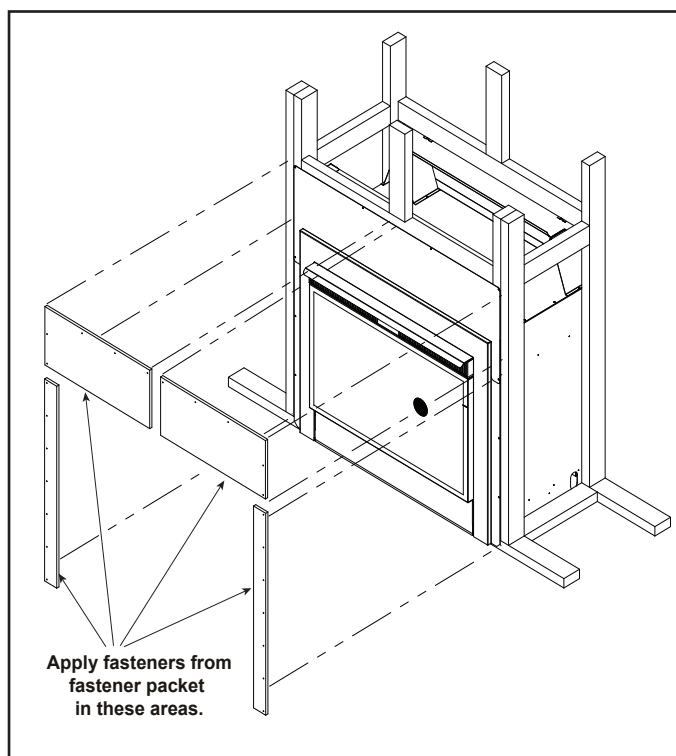

Figure 5.8 Attaching Non-combustible Facing Material (Outdoor Side Only)
- Center and attach two top boards (the two shorter pieces) to the framing members. See Figure 5.8.
- Attach the left and right side pieces to the framing members. See Figure 5.8.
- Use fasteners from fastener packet (in manual bag) in areas noted in Figure 5.8.